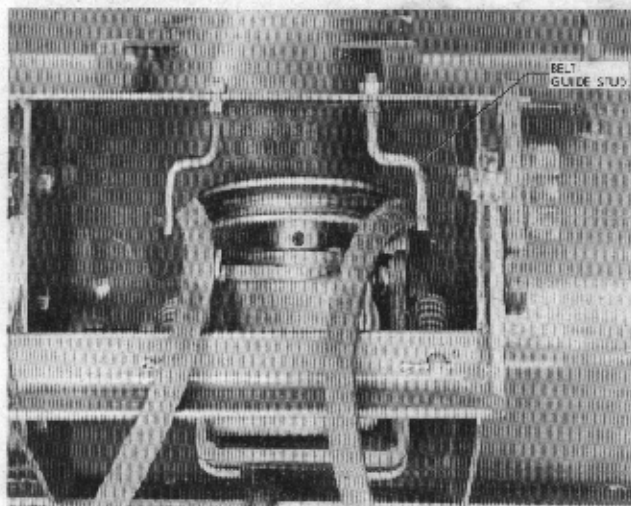

FIGURE 2
2. Install the belt guide studs to the blower frame (figure 2). **Note:** The bends must be facing out as shown. Secure in place with the  $\frac{1}{4}$ -20 Esllok nuts.